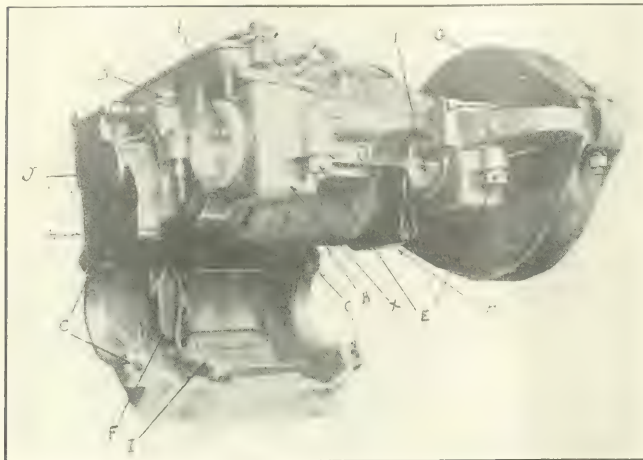
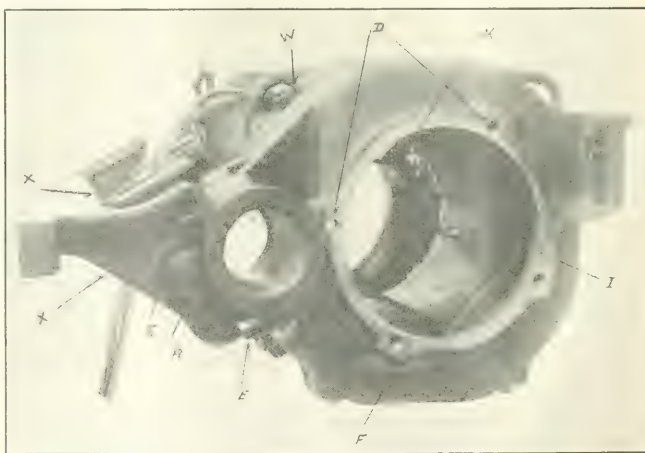

FIG. 1. SPLIT FRAME MOTOR.
FIG. 2. BOX FRAME MOTOR.
The frame as the word signifies, is the steel casting upon which the electrical and mechanical parts are built, of which there are two types, the "split" and the "solid" or "box" types. Figs. 1 and 2 show these two types, respectively, and are photographs of the standard Westinghouse motors. The design in the frame in no changes the electrical characteristics, as it is possible to have the same motor as regards speed and torque on either the "split" or "box" frames. Each of the two types, however, has its advantages.
Take for instance the split type and referring to our illustration, Fig. 1, it is clearly shown that by dropping down the lower half of the frame, which can be done by removing the parting line bolts, or clamping bolts from holes (C) and allowing the lower half to swing on a hinge on the upper half that the motor can be inspected and the different parts re-
the split frame, both halves are milled or planed to a surface and most carefully done, so that the two halves will fit together closely, leaving no air gap through which dirt and water could get into the motor. Each half is carefully lined up before milling, so that just the right amount of material is removed in order that further operations will come correctly. After milling the halves are set up into another machine and holes are drilled to template for the clamping bolts (C) and axle cap bolts (E), Fig. 1. The first operation in case of the box frame is to locate the correct amount of material to mill off the frame at point (R) Fig. 2, and to set up the motor in the machine so that the slope of this surface will be exactly correct with respect to the vertical. The holes are then drilled for the axle cap bolts (E).
The halves are now bolted together, the axle caps (X), Figs. 1 and 2, are fitted in place, and the motor is set up in a boring mill to be bored out for the axle bearings (L), Fig. 1, and the armature housings (H). The ends of the castings are faced off to proper dimension between faces in this machine.
With the box type of motor, Fig. 2, it is necessary to jack up one end of the car and run out the truck. The motor must then be removed from the truck and same repaired. On large railway systems this procedure is not a disadvantage as a spare truck fitted with motors can replace the one removed, or the damaged motor can quickly be replaced by an extra one and the car put back into service. The motor can then be overhauled and repaired.
held tight by nuts and lockwashers (W), Fig. 2.